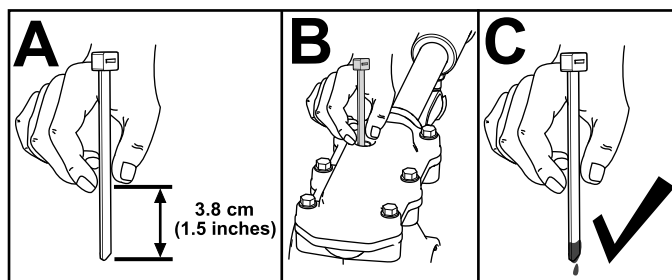

Figure 31
3. Check the oil level using a suitable measuring device, such as a clean cable tie. The oil should be approximately 3.8 cm (1.5 inches) below the filler opening (Figure 31).